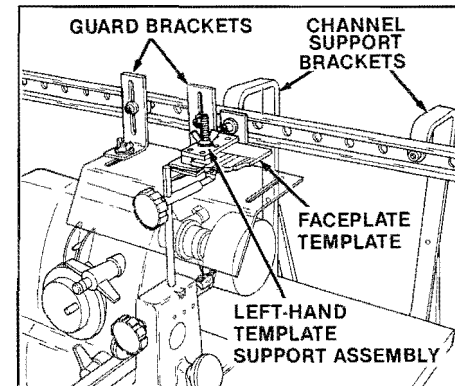

Figure 19. Faceplate Setup.
**1. Set up the duplicator** for faceplate turning according to the following procedures: (See Figure 19.)